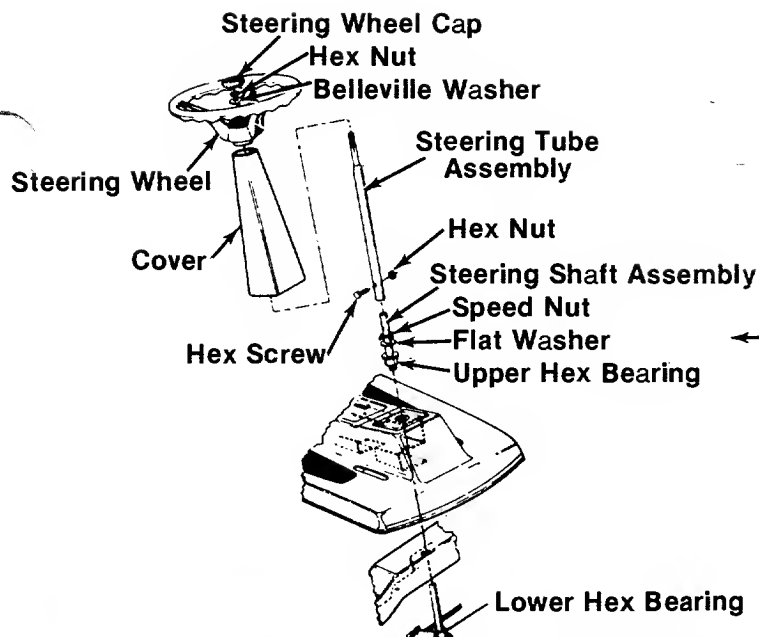

FIGURE 1. STEERING ASSEMBLY
← **STEERING WHEEL ASSEMBLY (See figures 1, 2 and 3)**
1. Check the upper and lower hex bearings. Be sure they are seated and in position. See figure 1.